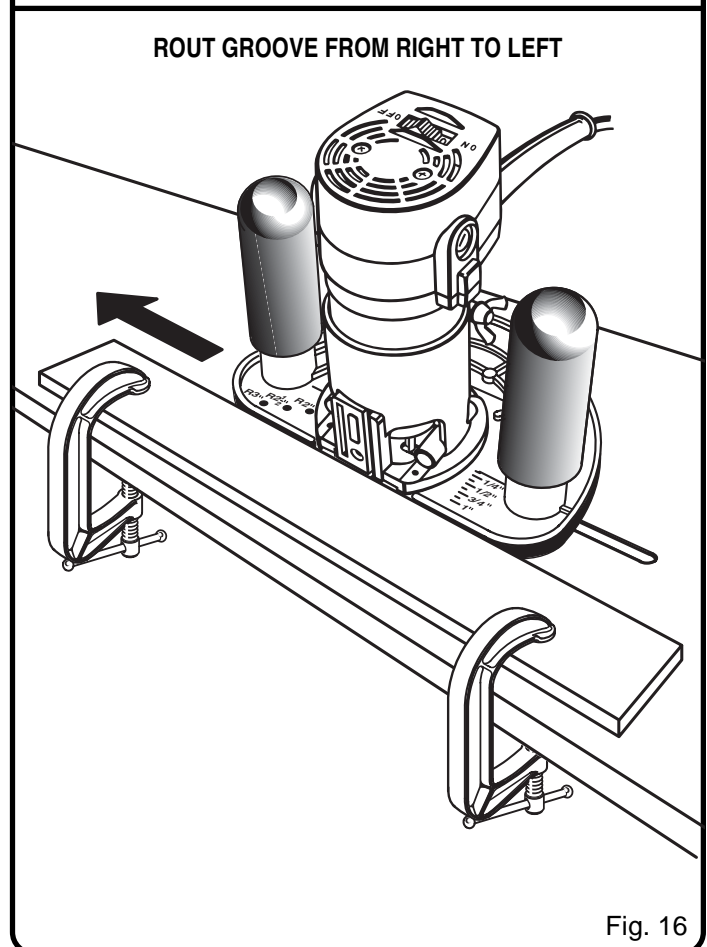

Fig. 16
- If you are using "C" clamps and a board to act as your straight edge, place cutter at desired position on the workpiece and make your cut from right to left as shown by the arrow in figure 16.